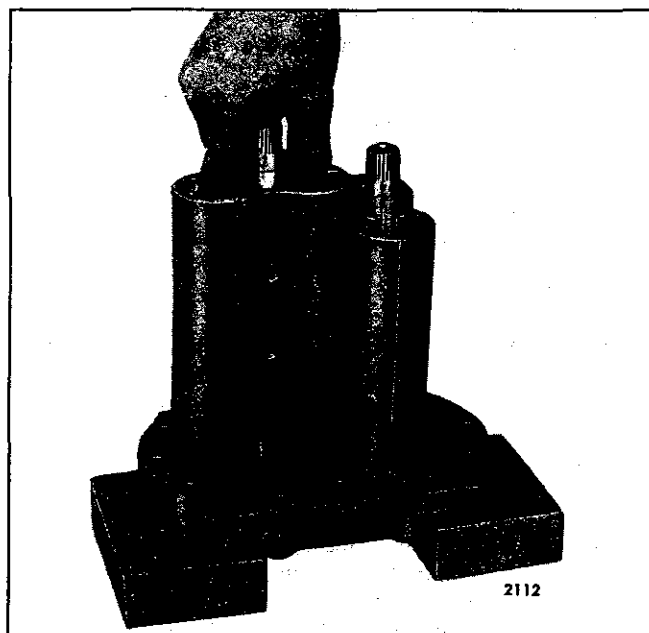

Fig. 13 - Installing Blower Rotors in Front End Plate
5. Place the front end plate on two wood blocks. Then, install the rotors, gear end up, on the end plate (Fig. 13). On the former blowers, be sure that the ring type oil seals are properly positioned on the rotors.